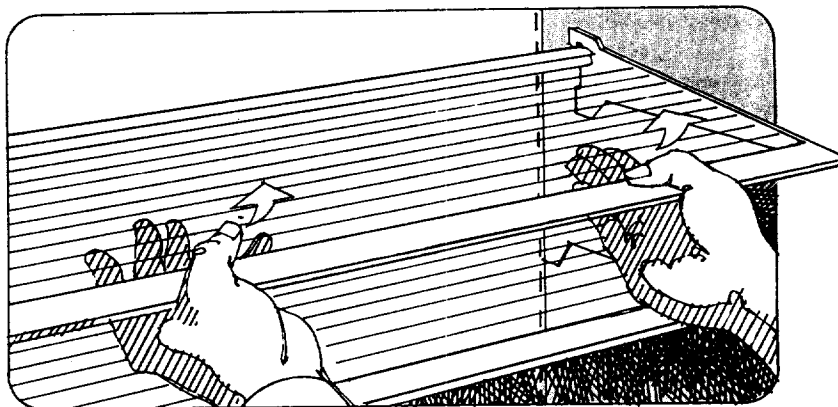

Figure 6
**To remove or adjust shelves,** tilt the shelf up at the front, then lift up and out of tracks on rear wall of refrigerator or freezer as shown in Figure 6. **Note:** If door is only allowed to open 90°, in order to clear door shelves, lift and tilt right end of shelf up and left end down, and lift out clearing door shelves. **Caution should be exercised when handling refrigerator glass shelves to prevent breakage or scratching of interior.** **To replace shelves:** Select desired shelf height. With shelf front raised slightly, insert shelf in tracks at rear of unit. Then lower front of shelf until it locks into position.